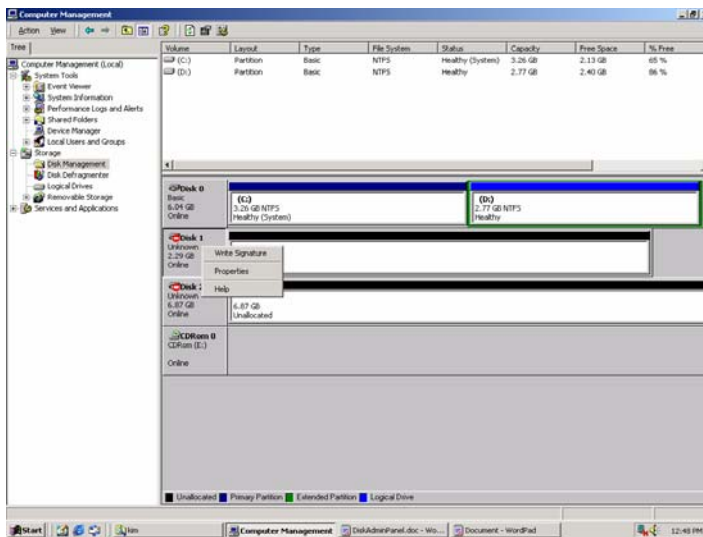

Figure 3.1 Writing Signatures
3. Disk Management displays each new device by disk number and asks if you want to write a signature on the disk (see Figure 3.1). You may only write a signature once on each device. For all SCSI disk devices, click **OK** to write a signature.